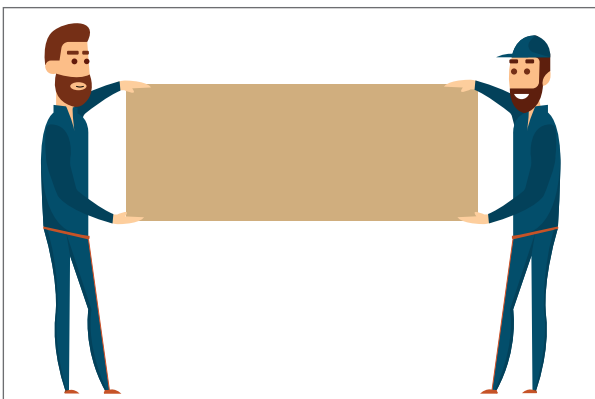

Fig. 1
2. Always carry your benchtop on edge (never flat) (see Fig. 1).